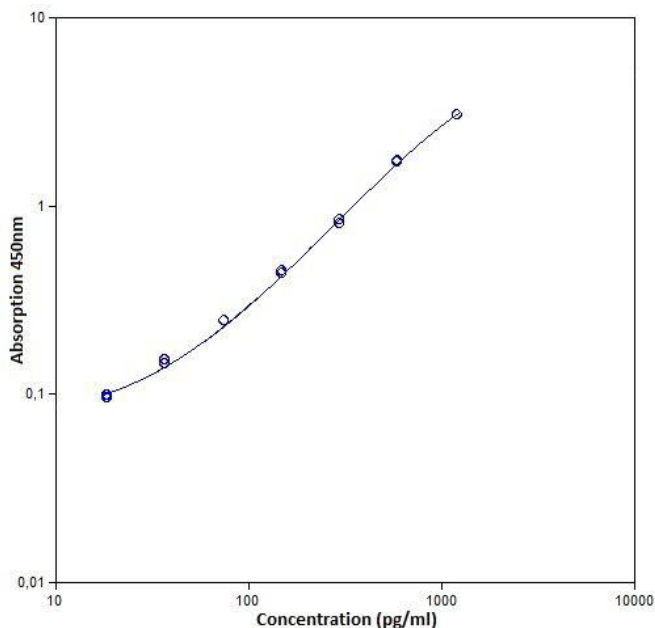

Fig. 8 Representative standard curve for human IL-2 ELISA. Human IL-2 was diluted in serial 2-fold steps in Sample Diluent.
- If cell culture supernatants have been measured the concentration read from the standard curve must be multiplied by the individual predilution factor (y) and dilution factor (2) of the assay (x 2y).
- A representative standard curve is shown in Figure 8.